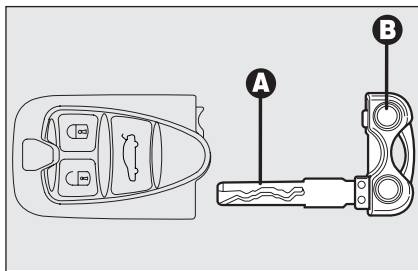

fig. 6
The electronic key **fig. 6** is fitted with a metal insert **A**, that can be extracted by pressing button **B**.
**Never leave the electronic key unattended to prevent anyone, especially children, from holding it and pressing button B-fig. 6 inadvertently.**